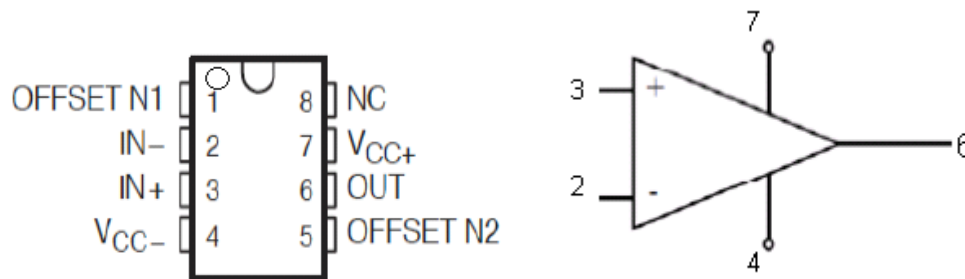

Fig. 1: Pin-out of UA741CN op-amp.
- (a) **Get Parts and Built Test Circuit.** Obtain an op-amp from the parts bin. The pin out is given below in Fig. 1.